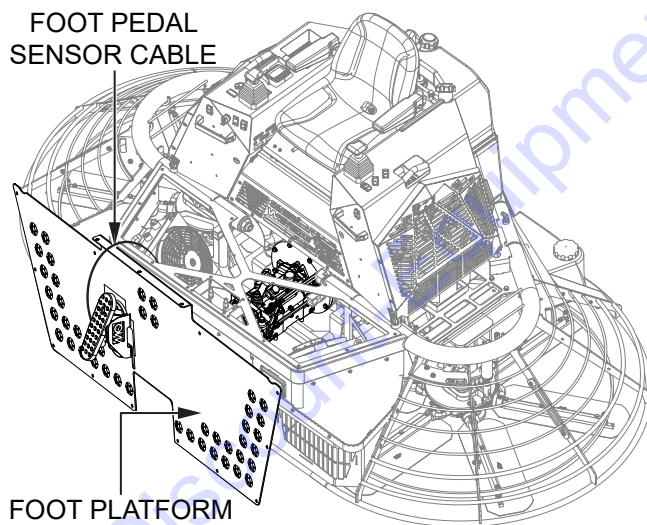

Figure 4. Foot Platform Removal
2. Remove the foot platform and set it in front of the trowel as shown in Figure 4. **DO NOT** disconnect or remove the foot pedal sensor cable.